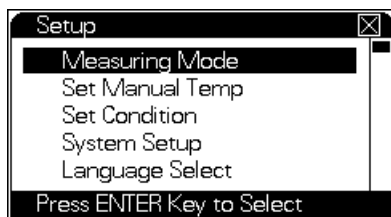

Figure 11 The setup screen
- 1 From the initial state, press [**Setup**]. The setup screen appears. See Figure 11.
- 1 From the initial state, press [**Setup**]. The setup screen appears. See Figure 11 on page 24.